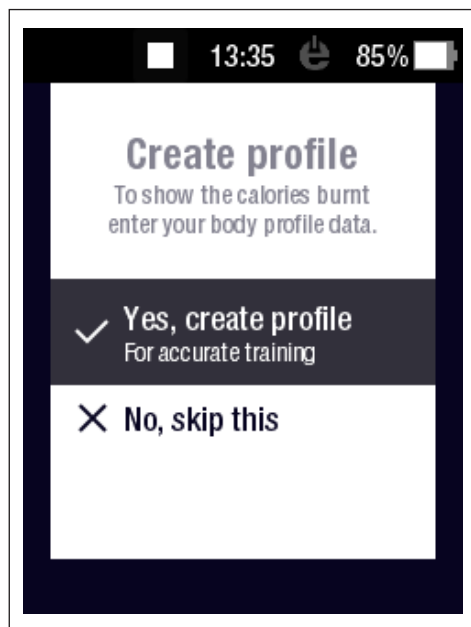
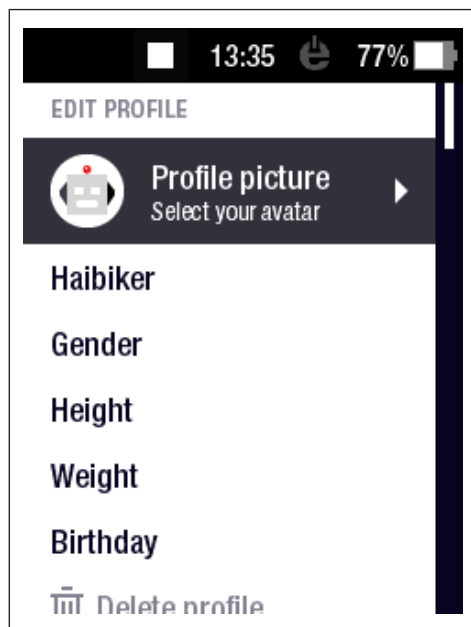

Fig. 47: Creating profile
Fig. 48: Data input for profile
- Create a profile with your data (profile picture, name, gender, height, weight and birthday) to personalise your pedelec (see Fig. 47 and Fig. 48). If you wish, you can skip this step and complete it later.